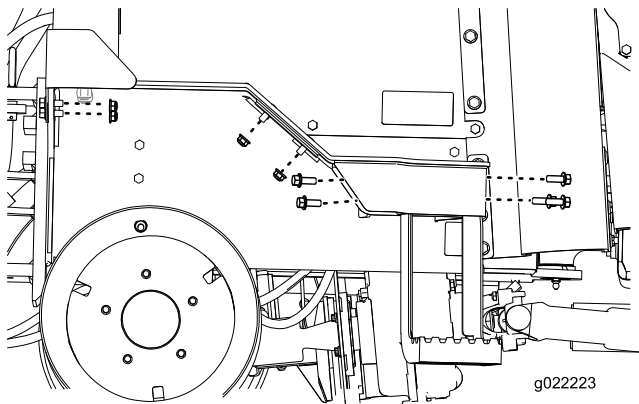

Figure 19
- Remove the step extension from the machine (Figure 19).